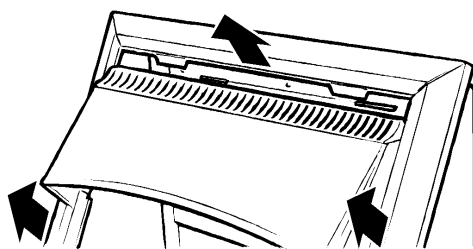

Figure 5 Front Surround Removal
4.2 Remove the two screws securing the bottom of the front surround to the sides of the convection box. Raise the front surround to allow the retaining lugs at the top to clear the slots in the convection box hood and then lift clear (see figure 5).